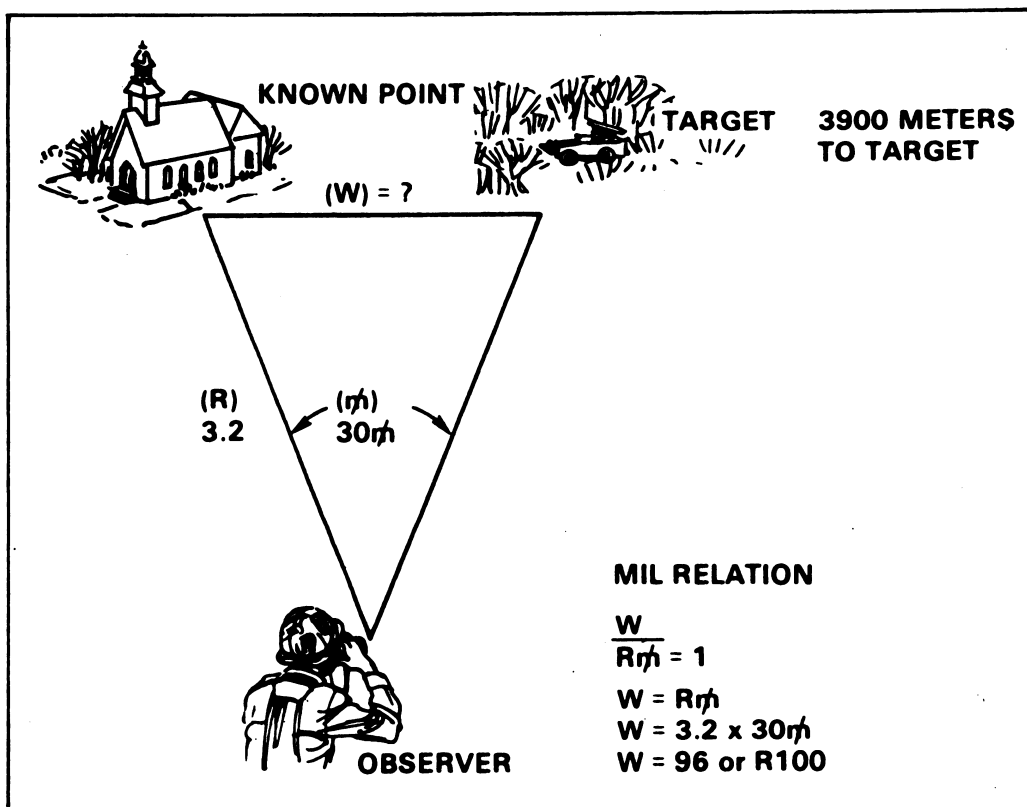

Figure 5
2. Determine the lateral shift from a known point to the target (see fig. 5) using the mil relation formula.
a. The formula is expressed as $\frac{W}{R\text{M}} = \text{M}$, where M is the angular measurement in mils between the two points, R is the distance in thousands of meters (expressed to the nearest 100) to the known points from which angle M was measured (fig. 5), and W is the lateral distance in meters.
b. A convenient way of using the mil relation formula is to cover the value desired and perform the calculation indicated. For example, to find the lateral shift in meters, the lateral distance (W) would be covered leaving the range (R) to be multiplied by the mils (M).
(1) For our purposes, the mil relation formula is used in conjunction with the distance to the known point expressed in thousands to the nearest 100 to determine lateral shift. The lateral shift in meters (W) is equal to the distance to the known point (R) times the angular deviation in mils (M).
(2) The distance to the known point is the distance from the observer to the known point (to the nearest 100 meters) divided by 1,000. For example, if the distance to the known point (church in fig. 5) is estimated to be 3,200 meters, the distance to the known point is 3.2.
3. Determine range change from the known point to the target (see fig. 5).